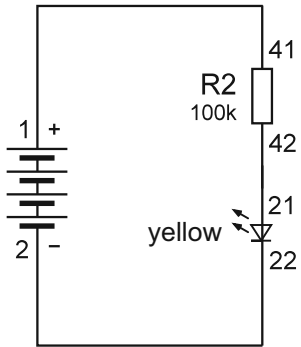

fig. 13.1
The transistor is a semiconductor component with three terminals, which are called a base, in the diagram designated as (B), collector (C) and emitter (E). Most often, the transistor is used as an amplifier of electric current, in other words via the transistor we can using small changes in the current I_b flowing into the base of the transistor cause a large change in current I_c flowing into the collector of the transistor. Simplifying, one could say that a transistor represents between collector and emitter resistor whose value can be changed electronically (rather than mechanically, as with the potentiometer) by the size of the current I_b flowing into the base. Common transistors amplify more than 100 times, so for the switching current $I_c = 100 \text{ mA}$ is sufficient current to the base 1 mA . Current in our model flows by the scheme from the plus pole of the source (battery) and divides the current flowing into the base through a resistor $R_2 \text{ } 100\text{k}\Omega$ and current flowing into the collector through the LED to a protective resistor $R_4 \text{ } 180 \Omega$. Both these currents are flowing out of emitter to the minus pole of the source. In the direction of the base-emitter transistor acts as a diode in the forward direction, we can simply say that it has negligible resistance. Base current is therefore determined by the size of resistor connected to the base (the larger the resistance, the smaller current). Connect now the circuit in Fig. 13.1 and after inserting the batteries you find that yellow LED glows faintly. The current flowing through the resistor LED diode $100 \text{ k}\Omega$ is too small. In connection 13.2 just this small current flowing through the same resistor $100 \text{ k}\Omega$ base is enough, for transistor switching, or to reduce the resistance between the collector and emitter so that the LED lights up. Try now disconnect the wire from the socket 56 - LED goes out, because you disconnected the current to the base of a transistor is open. Now grab the disconnected wire with fingers at uninsulated end and the touch socket 54 with the other hand to light up. If it does not happen, moisten your fingers and then touch. The body also represents the electrical resistance, which carry current sufficiently to switch the transistor on our connection.